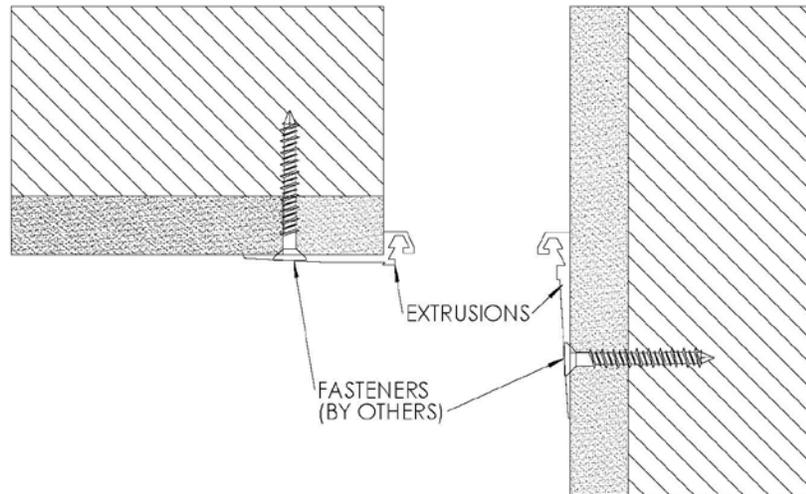

FIGURE 4
1. Position aluminum extrusions in the expansion joint as shown and attach with appropriate fasteners (by others) for the substrate. 18” on center. Make sure the corner extrusion is installed so the extrusions channels are level with each other (stagger seams, as necessary). **See Figure 4**